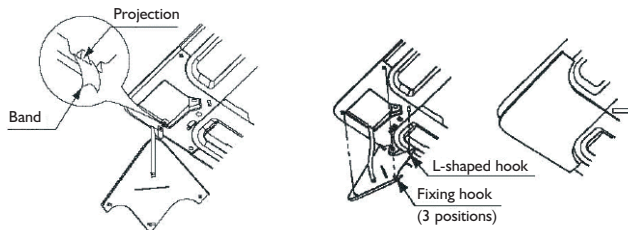

Fig 4
5. Attach the corner pocket after mounting air panel. (Refer to Fig.4)